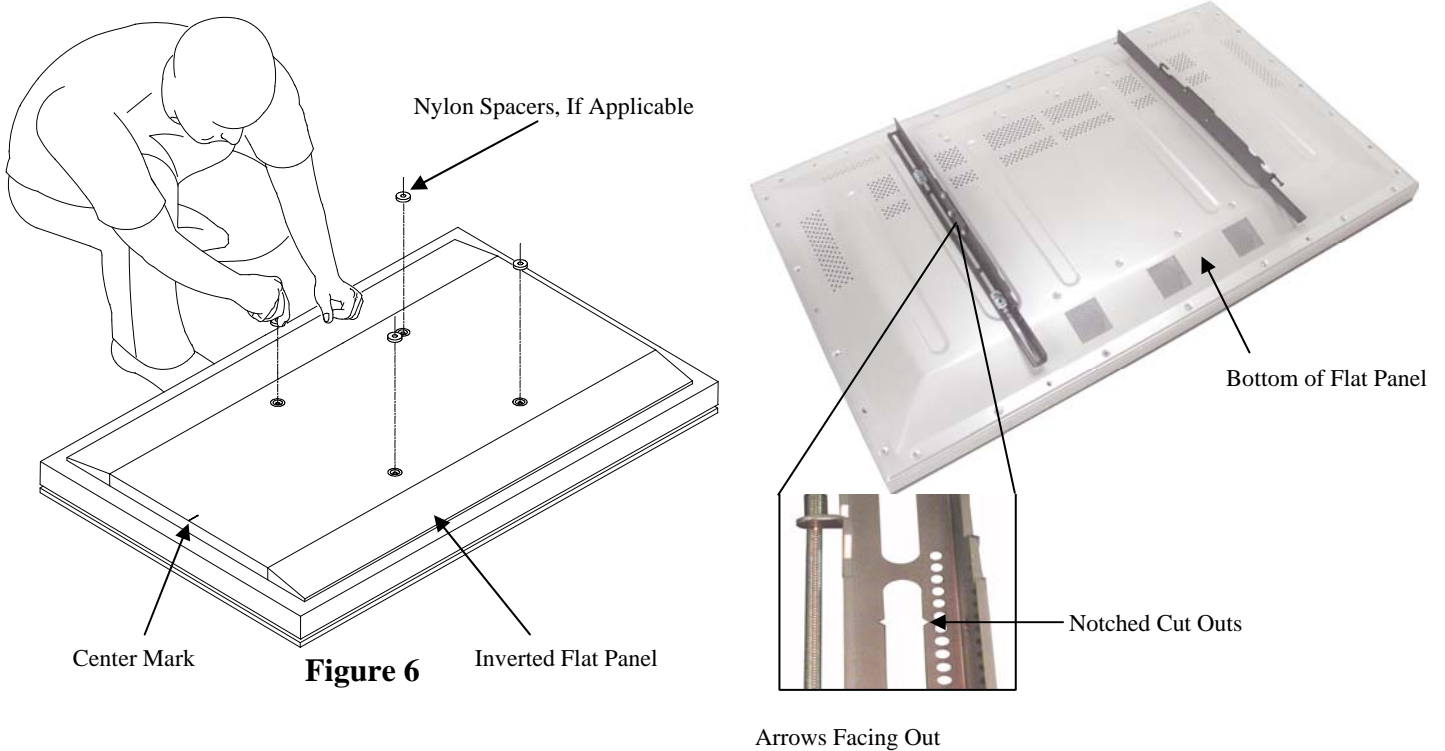

Figure 7
4. Lay the mounting brackets (stamped arrows facing out) - (Figure 7).